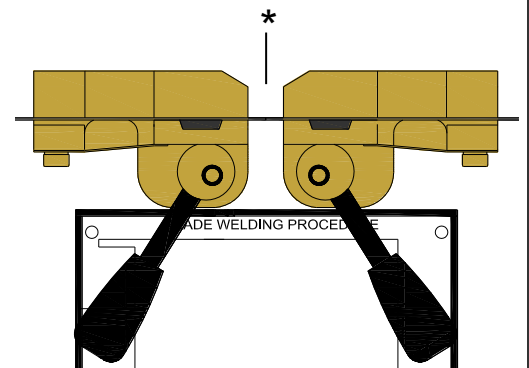

figure 19
4. After squaring the ends of the blade, insert each half until centered between the clamps (fig. 19).